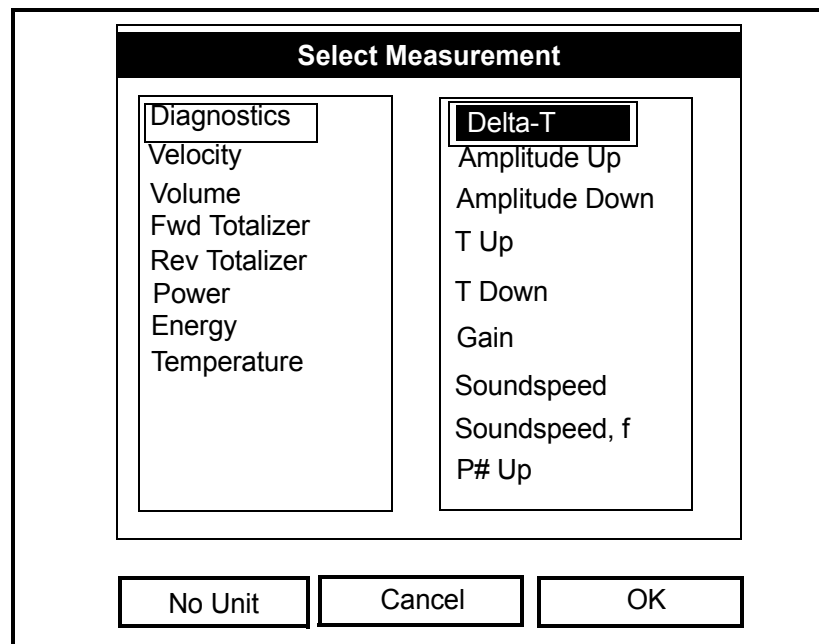

Figure 3-5: The Measurement Parameters Window
2. At the *Change* drop-down menu option, press [ENTER] again and a window similar to Figure 3-5 below appears.